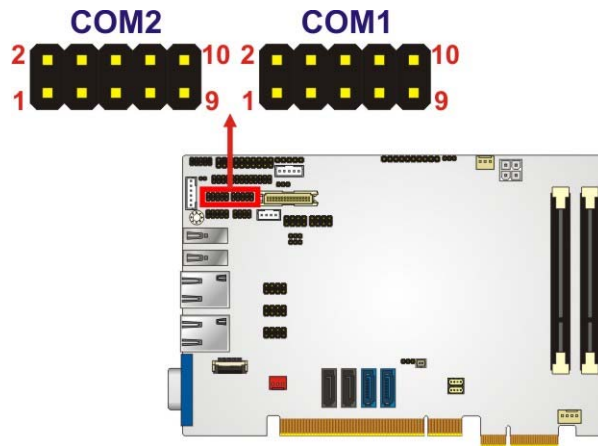

Figure 3-19: COM Connector Locations
- CN Location:** See Figure 3-19